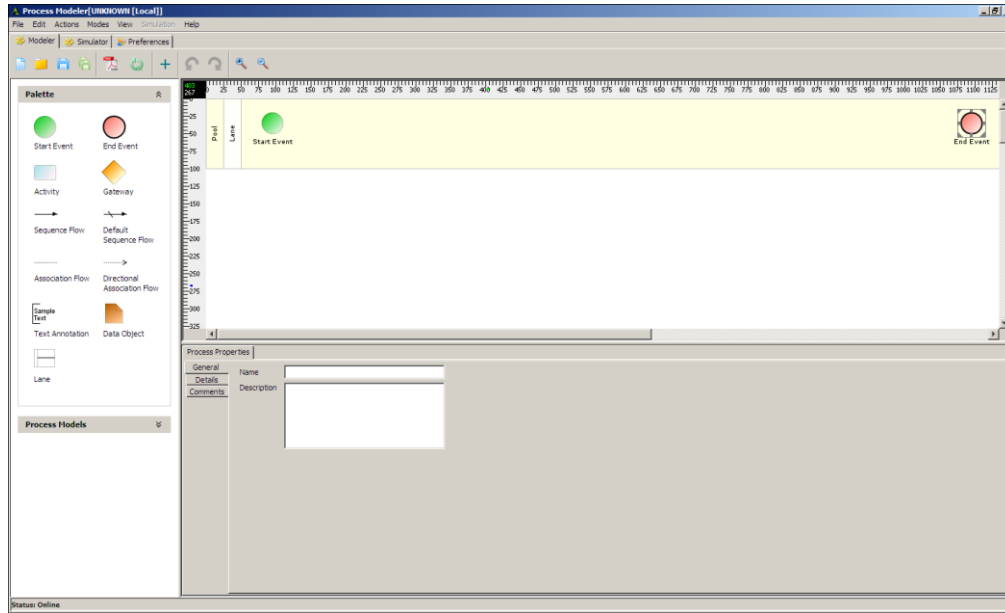

Figure 3: Process Modeler
5. Click **Process Modeler** button. The *Process Modeler* applet is displayed (see Figure 3).